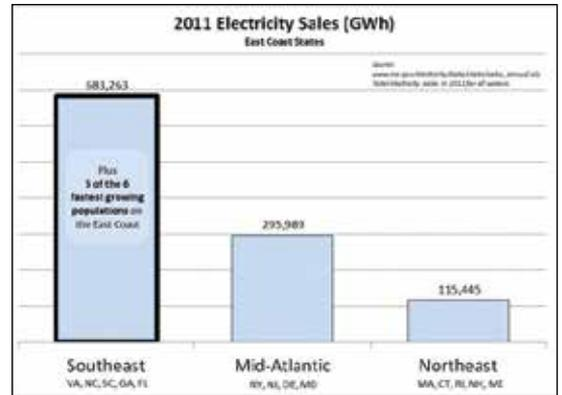

Figure 2: The Southeast region represents more than half of the total electricity sales on the East Coast.
populations (see Figure 2) (11). The low electricity rates in the region attract energy-intensive industries, which points to a high demand growth rate and the ability to accommodate long-term, large-scale offshore wind energy development.